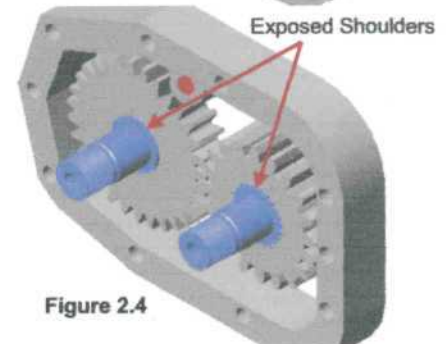

Figure 2.4
- 2.4 With motorcycle in neutral, ensure that outermost gears are pushed in and that the shafts are pulled out to expose the shoulders of both shafts. The shoulders should be flush with gear faces. Figure 2.4